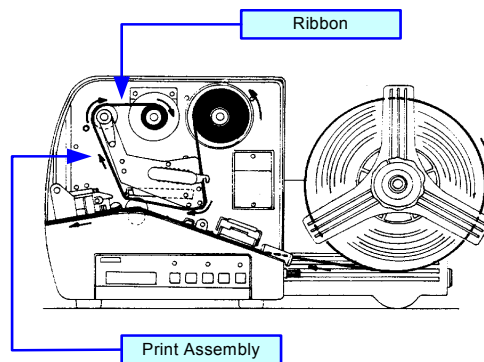

Figure 3-4b, Ribbon Loading
- 3 Release the print head latch (**Figure 3-4b**).